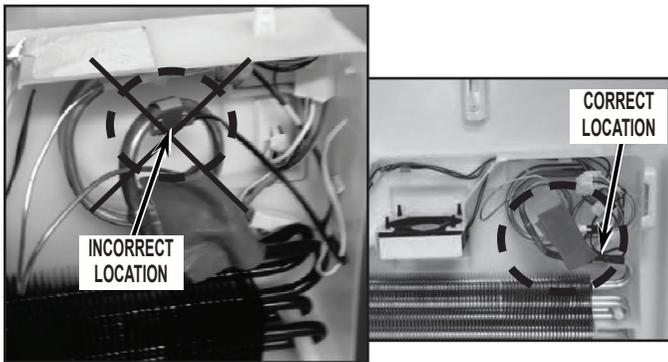

FIGURE 1
2. Replace the evaporator wire harness, making sure the thermistor is attached to the suction tubing coming directly out of the evaporator. See *Figure 1*.